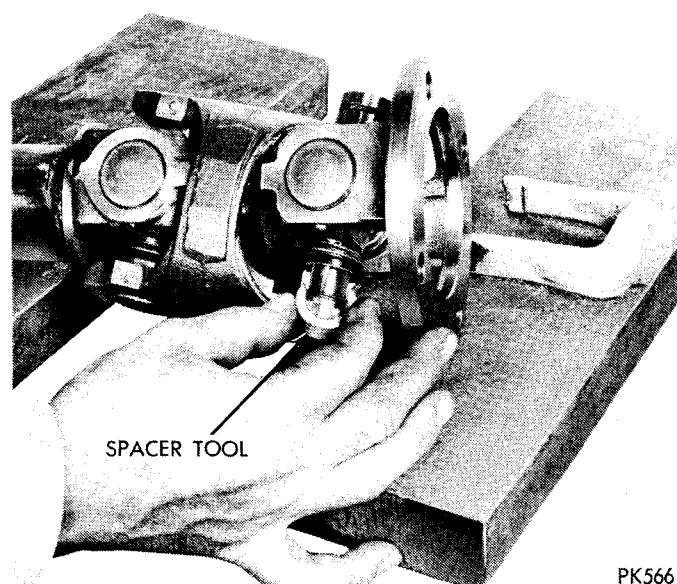

Fig. 11—Spacer Placement (Tool C-4365-4)
(2) In the event the bearing cup is not completely removed, lift the cross and insert spacer tool C-4365-4 between the seal and bearing cup being removed (Figure 11). Complete the removal of the bearing cup by pressing it out of the yoke.